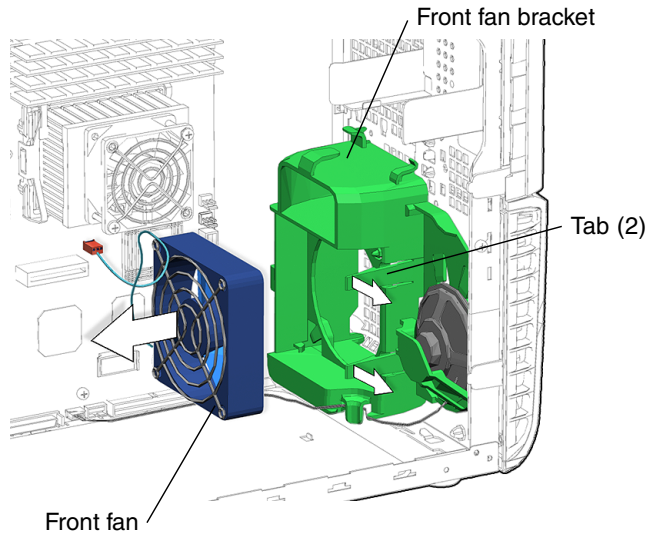

FIGURE 13-13 Removing the Front Fan
5. Remove the front fan from the front fan bracket (FIGURE 13-13).